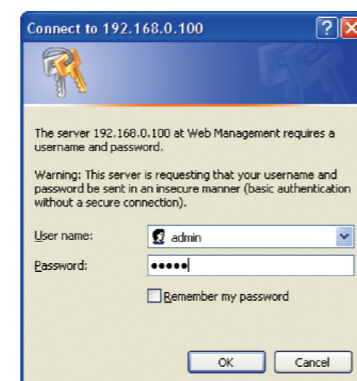

Figure 7-2 Login screen
2. When the following dialog box appears, please enter the default user name "**admin**" and password "**admin**" (or the username/password you have changed via console). The login screen in Figure 7-2 appears.